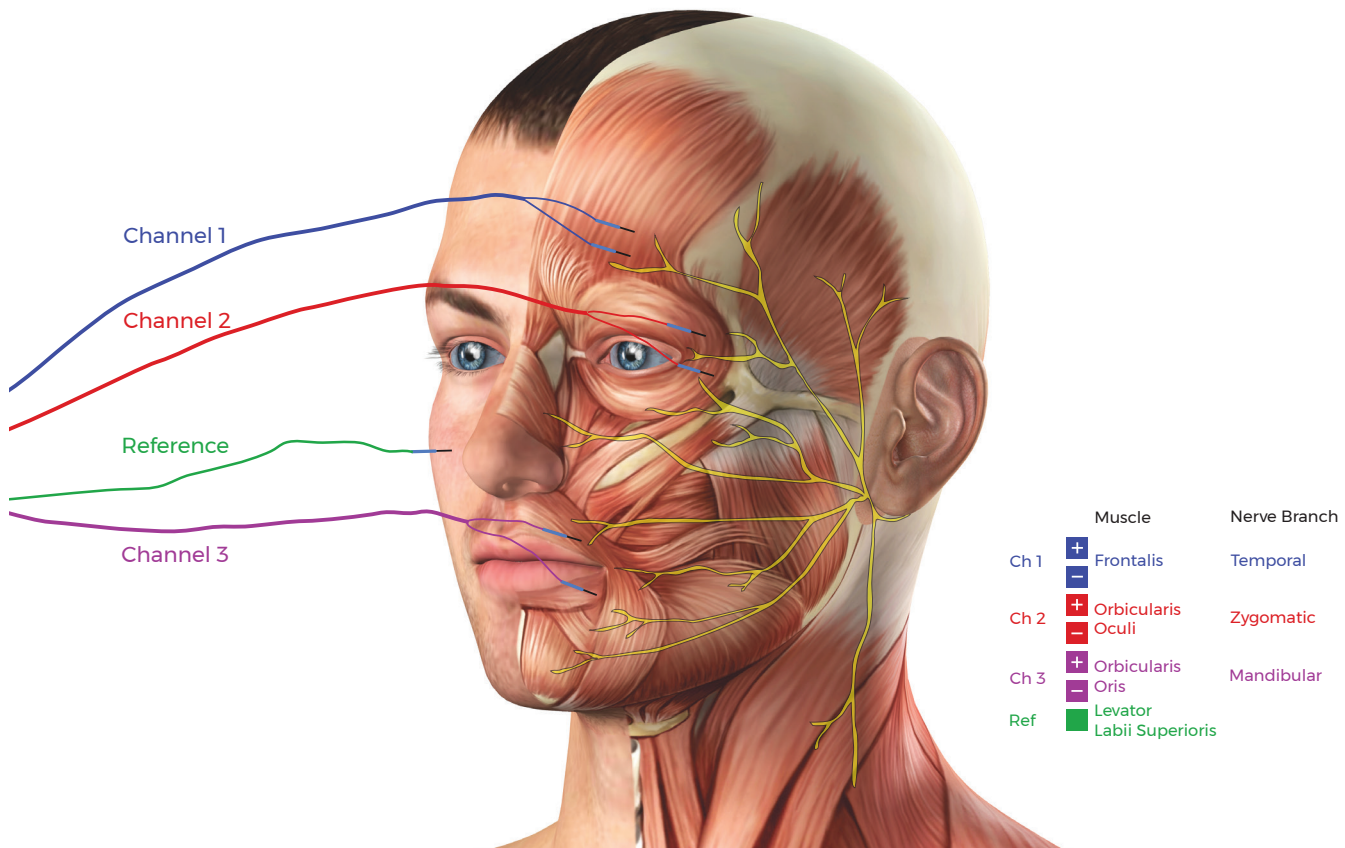

Figure 11.1: Suggested electrode placement for monitoring of cranial nerves VII & IX, XI or XII (cerebellopontine angle tumors).
2. Insert each pair of Subdermal Needle Electrodes (for channels 1 - 3) into each muscle as shown in Figure 11.1 (page 21), with the wires leading away from the surgical site. Ensure that the needles of the electrodes are inserted adequately into the muscle and not simply under the skin.